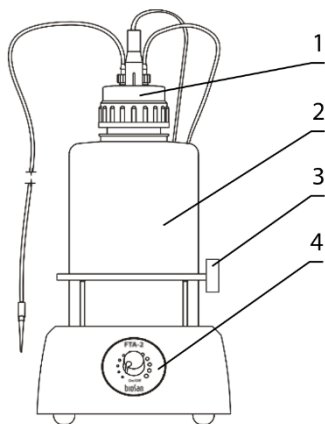

Figure 3. FTA-2i front view
- Install the trapping flask (fig. 3/2) on the unit.
- Screw on the lid with the sensor needles and valves for tubing (fig. 3/1) to trapping flask.
- Place the microtubes for aspiration tip into the holder (fig. 3/3).
4.4.1. **Optional MA-8 aspiration tip installation.** Remove microtubes and aspiration tip from the holder (fig. 3/3). Remove the aspiration tip (fig. 5/1) from the **MA-U** adapter and connect the **MA-8** aspiration tip (fig. 8/1).
- 5.3. (For model **FTA-2i**) Regulate the aspiration intensity with the regulator knob on the front panel of the unit (fig. 3/4). Clockwise turning direction increases power, counter clockwise – decreases. Current intensity is indicated by a light ring around the regulator knob.